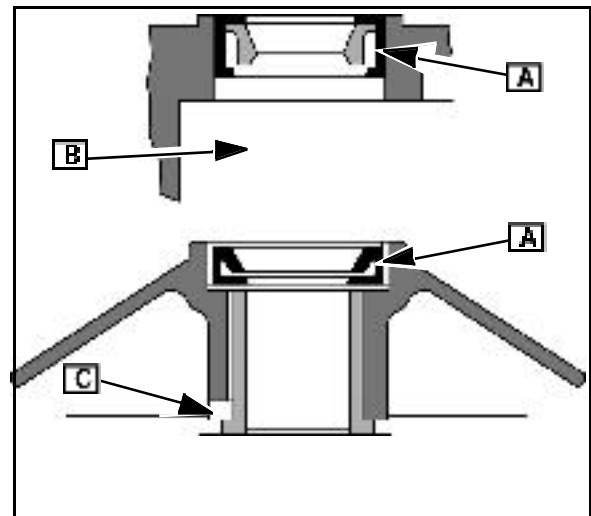

Fig. 26
Install seals with sealing lip (A) toward engine side of gear case (B) or cover (C] Fig. 26). Press until seal is flush with case or cover.